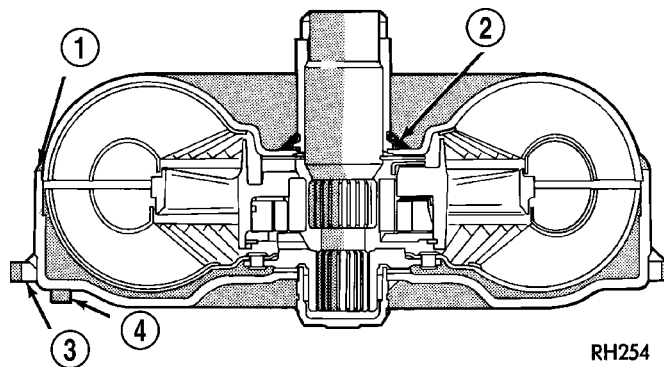

Fig. 8 Converter Leak Points - Typical
- Torque converter weld leaks at the outside diameter weld (Fig. 8).
- Torque converter hub weld (Fig. 8).